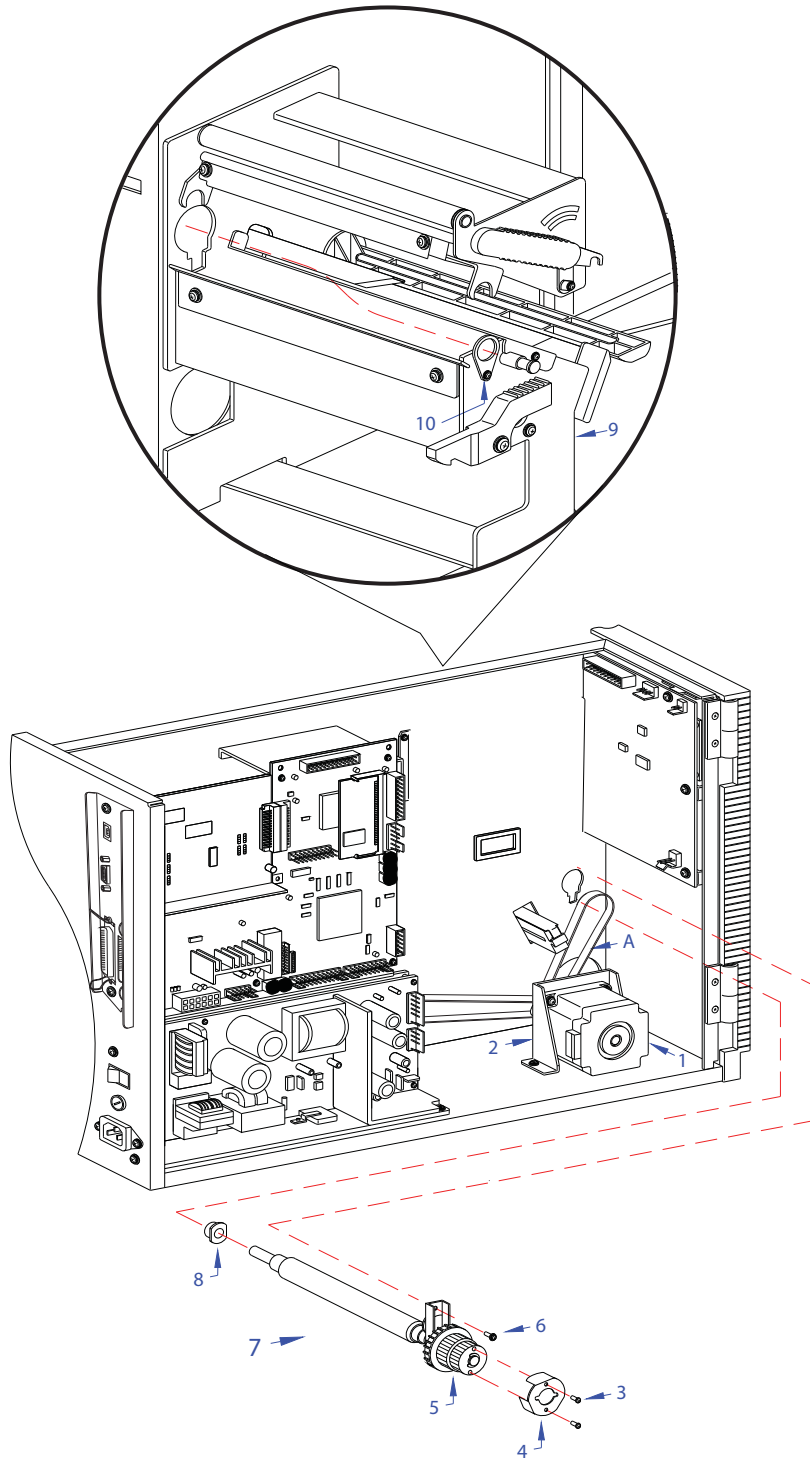

Figure 7-2, Platen Roller Replacement
- 2 Loosen the four screws (not referenced) securing drive motor (1, Figure 7-2) to motor bracket (2).
- 3 Remove two screws (3) securing belt guide (4).
- 4 Lift away belt guide (4) from dual pulley (5).
- 5 Remove timing belts (A) from dual pulley (5).
- 6 Remove screw (6) securing platen roller assembly (7) to the printer's center frame.
- 7 Withdraw worn platen roller assembly (7) from the printer along with bushing (8).
- 8 Insert bushing (8) onto replacement platen roller assembly (7).